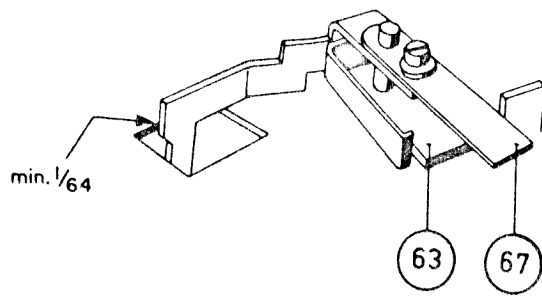
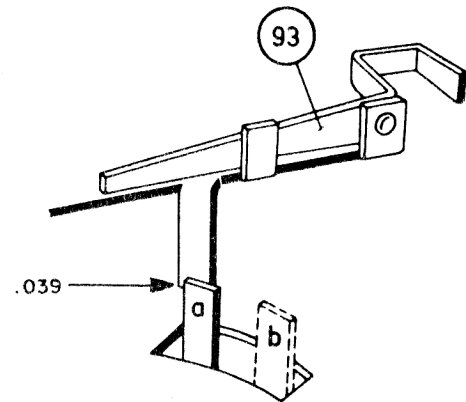

Fig.13
Fig.14
The stopping strip in bracket 169 is kept in its upper position by the spring 206. When the last record drops onto the turntable, the loading arm 174 also drops down. The loading arm holds down the stopping strip. When the last record has finished playing, strip 17 moves backwards and moves along the switching-off bracket 63 (see Figure 13). When the leaf spring 67 hits against the stopping strip the switching-off bracket is turned. The lug of switching-off bracket which protrudes through the top of strip 17, turns the blocking bracket (see Figure 14). The lug of this blocking bracket projecting from a slot in mounting bracket 2, moves from position b to position a. In the latter position, the lug is in front of the lug of scanning bracket 93 which faces downwards. The pick-up arm is now checked.
2. The nylon gear must be turned anti-clockwise by hand until strip 17 has taken up the changing position (roller against the oblique side of the strip). The spindle of the loading arm must be inserted into the proper hole, so that the stopping strip is pressed down. If the leaf spring 67 is pressed against the lower end of the stopping strip, the projecting lug of the switching-off bracket 63 must be in contact with the side of the hole in strip 17 (see Figure 13).
3. After the last record has been played, the pick-up arm moves outwards. If the lug of scanning bracket, 93 facing down, is  $1/32''$  beyond the blocking lug, the latter must slide from position B to position A (see Figure 14). If the two lugs are placed in line, the pick-up arm must be lowered exactly onto the support.